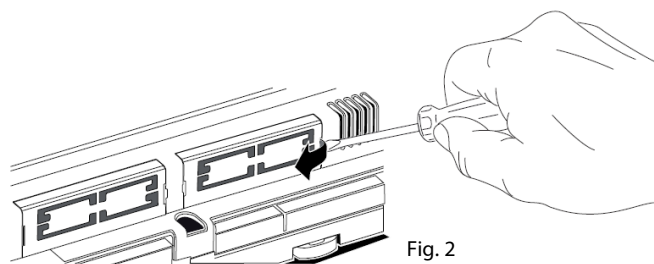

Fig. 2
1. Con un cacciavite, togliere lo sportellino "serial card" o field card, a seconda del modello, del KPM30/KPM31 (Fig. 2);
1. Use a screwdriver to remove the "serial card" or field card cover, depending on the model of KPM30/KPM31 (see Fig. 2);